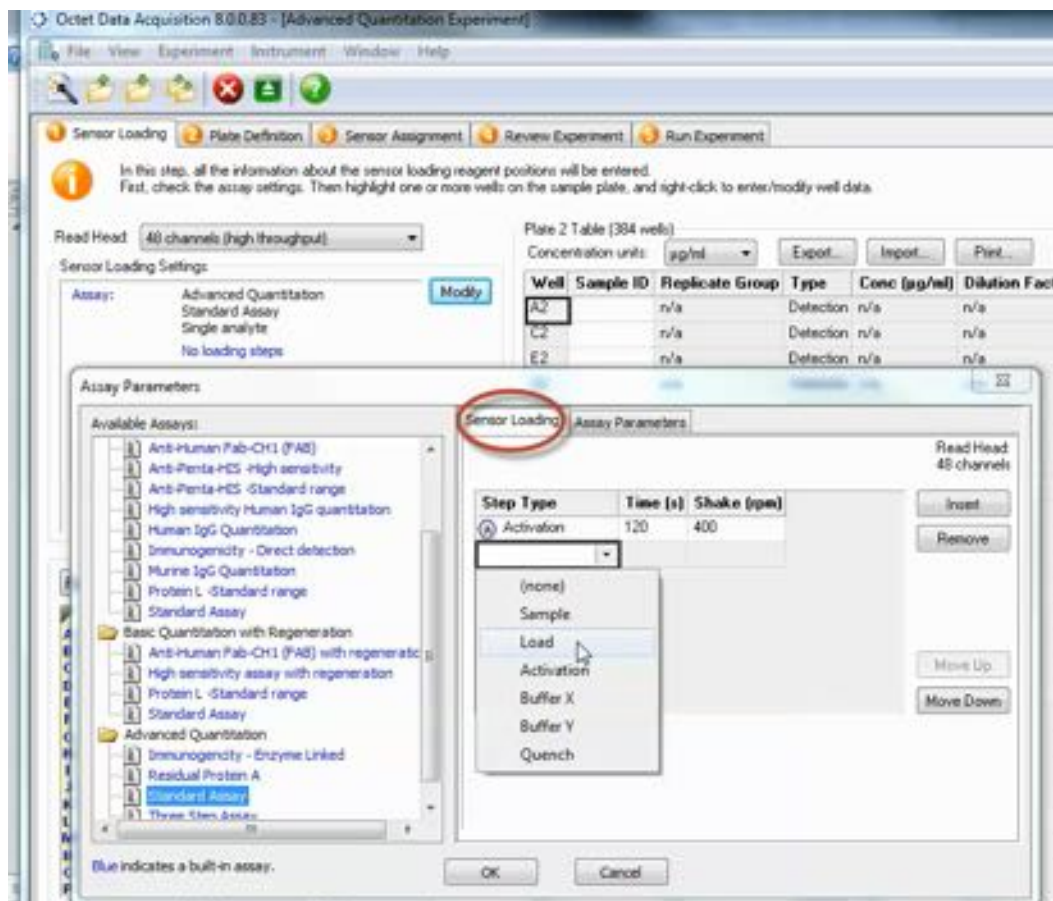

Figure 7-84: Modifying Sensor Loading Parameters
- To add or edit the Sensor Loading steps, click **Modify** in Sensor Loading Settings to bring up the Sensor Loading tab in the Assay Parameters window. Click on the drop-down list for Step Type or highlight the parameter you want to change. Click **OK** to complete the changes (Figure 7-84).